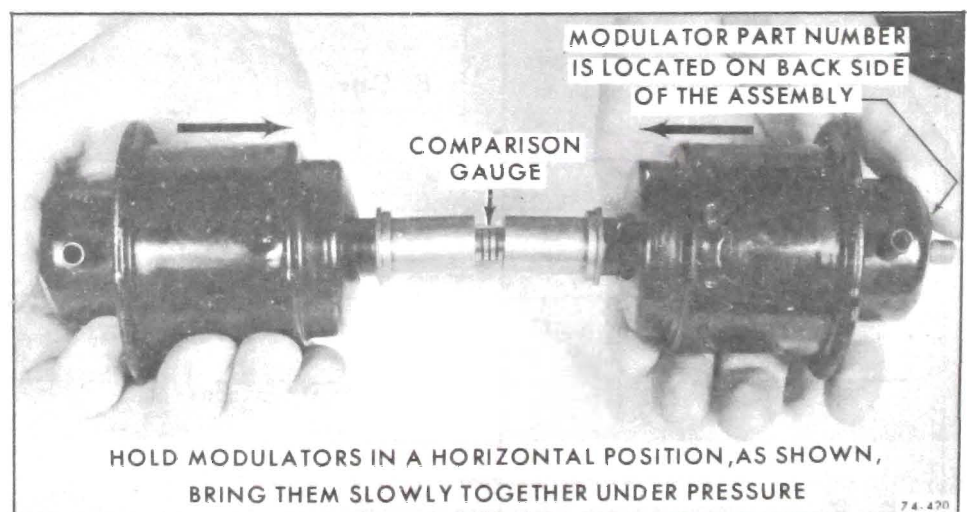
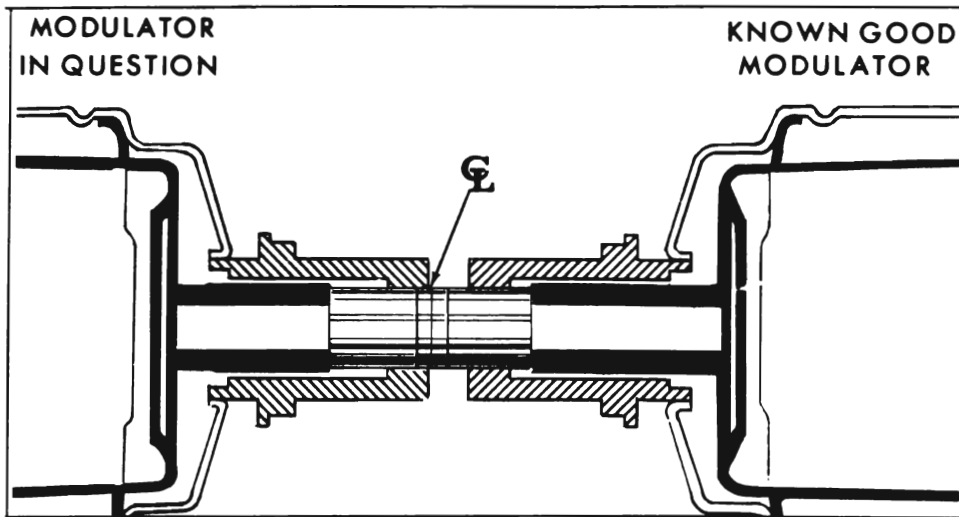

Figure 75-313 - Holding Modulator in Horizontal Position
Figure 75-314 - Modulator Bellows Bad
b. Holding the modulators in a horizontal position, see Figure 75-313, bring them slowly together under pressure. The modulator bellows in question, if defective, will reach the center line of the comparison gage before the known good modulator lines up with the outer gage line. See Figure 75-314.